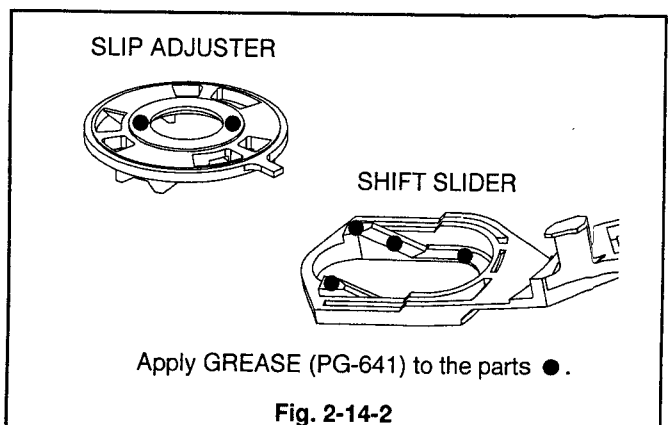

Fig. 2-14-2
4. Apply GREASE (PG-641) [859D055O30] to the parts on the new SHIFT SLIDER specified in the Fig. 2-14-2.
5. Apply GREASE (PG-641) [859D055O30] to the parts on the new SLIP ADJUSTER specified in the Fig. 2-14-2.